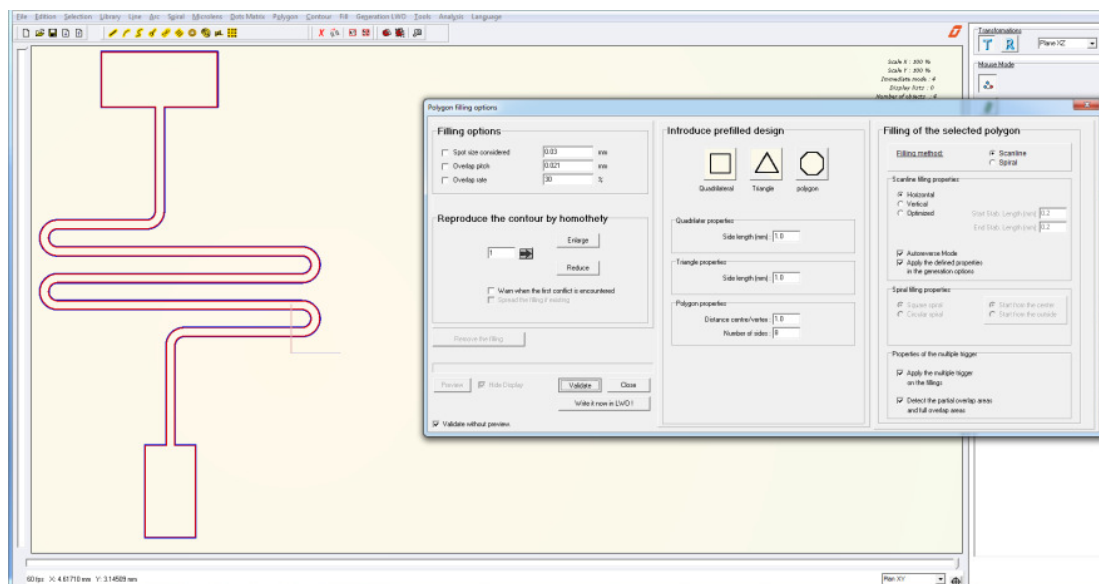

Fig21 : Polygon filling options
- Check or enter the following settings, and valid by pressing “Enter” (see Fig21) :